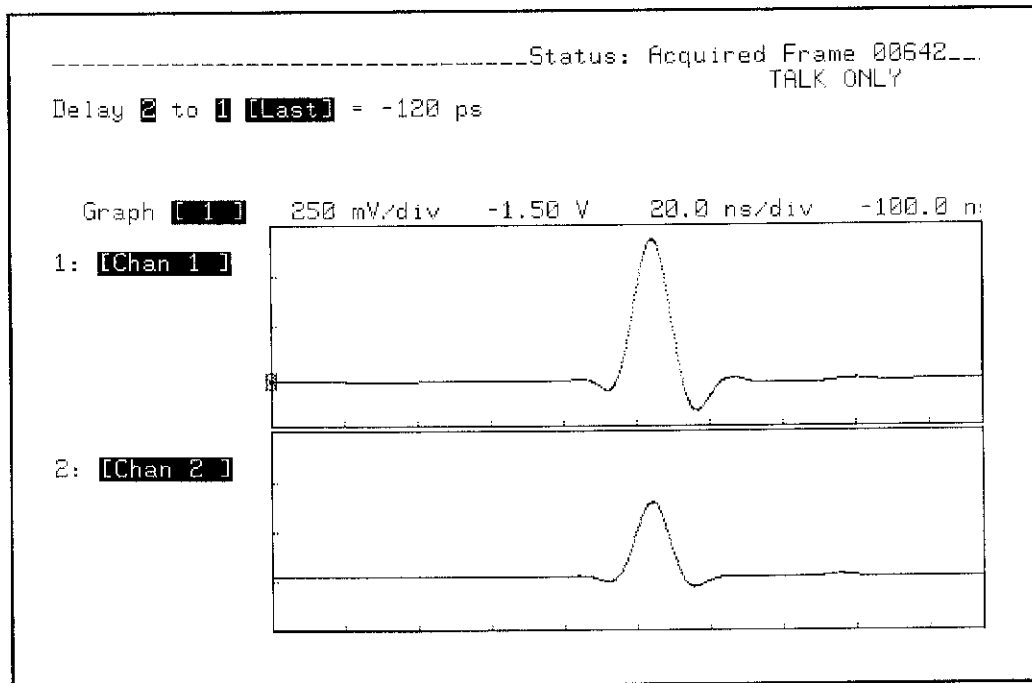

Figure 4-17. A8TP3 to A8TP2 Delay Waveform
10. Move HP 54201D Input 2 probe from A8TP1 to A8TP3. The display should appear similar to figure 4-17. Adjust A8R28 until DELAY measurement from 2 to 1 is approximately zero seconds (± 1 ns).